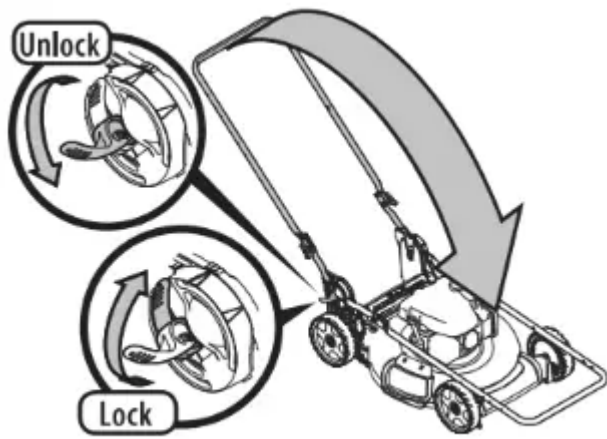

Figure 32
3. Unlock the two handle release levers. See inset Figure 32.
4. Fold the handle forward to the storage position (Figure 32). Do not crimp blade control cable or the drive control cable (if equipped) while lowering the handle.
5. Lock the two handle release levers (inset, Figure 32).
9. To unfold the handle, unlock the two handle release levers (inset, Figure 32) and perform STEPS 5-8 in ASSEMBLY. Vertical Storage Handle on page 9.